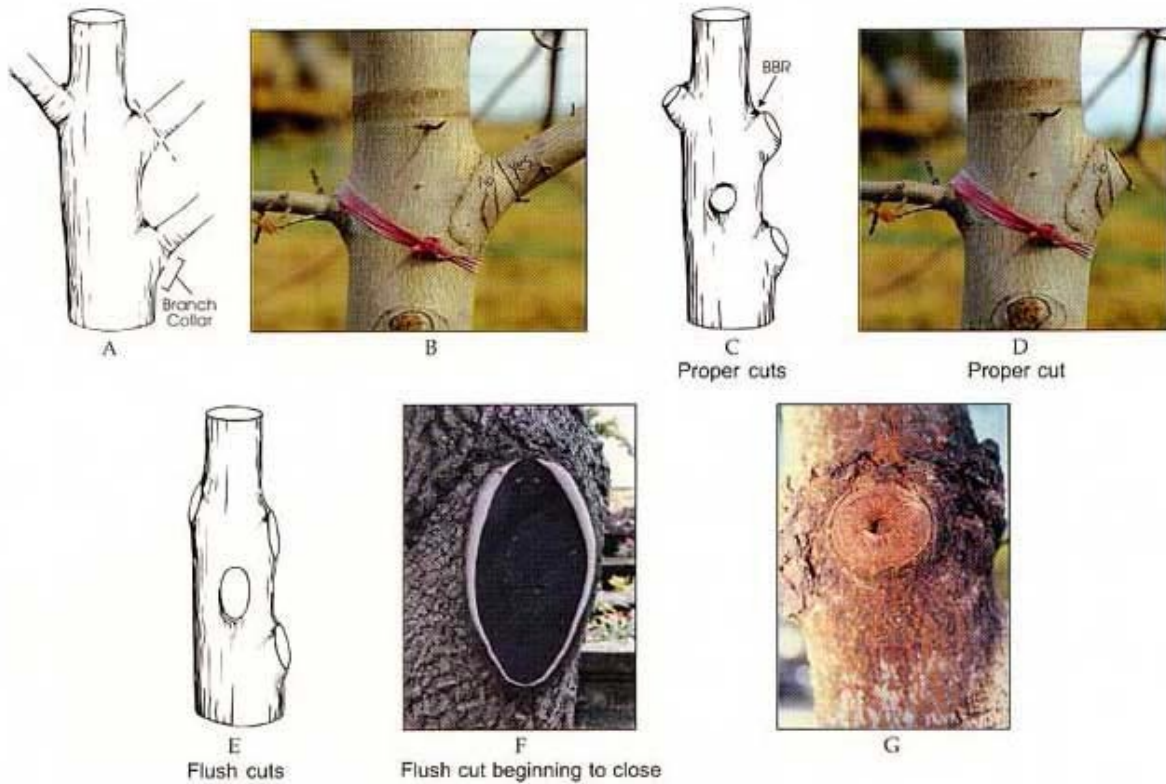

Figure 4
- T F Flush cuts were made when pruning branched from the trunk (see Figure 4 on page 11)
- T F Branch stubs are left beyond the branch collar (see Figure 4 on page 11). A branch stub can be removed and not reduce the grade.